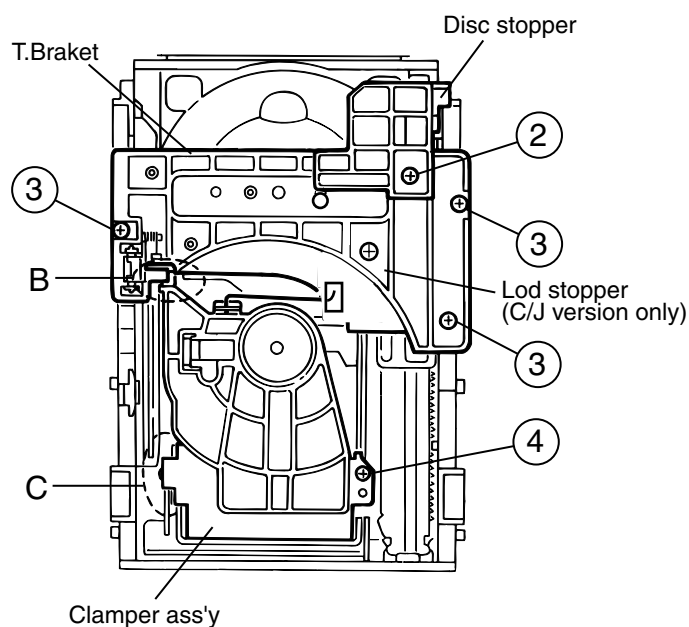

Fig.3
5. Remove the three screws 3 retaining the T.bracket (See Fig.3).
7. Remove the screw 4 retaining the clamber assembly (See Fig.3).